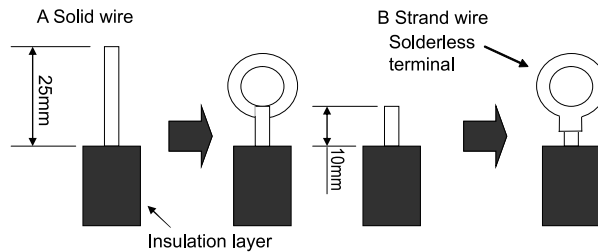

Fig.35
(1). For solid core wiring (Fig.35)
(2). For strand wiring (Fig.35)